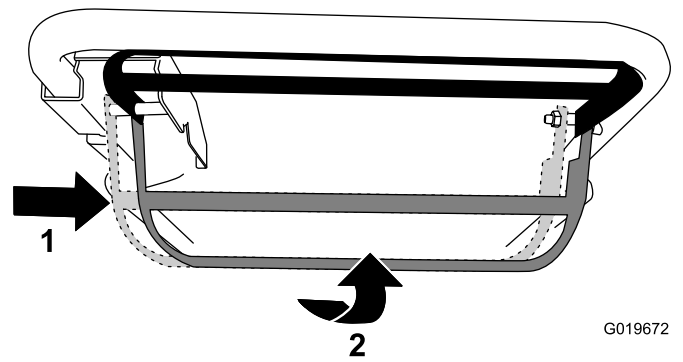

Figure 15
- To operate the self-propel drive and engage the blade, slide the control bar all the way to the right and raise it to the handle (Figure 15).